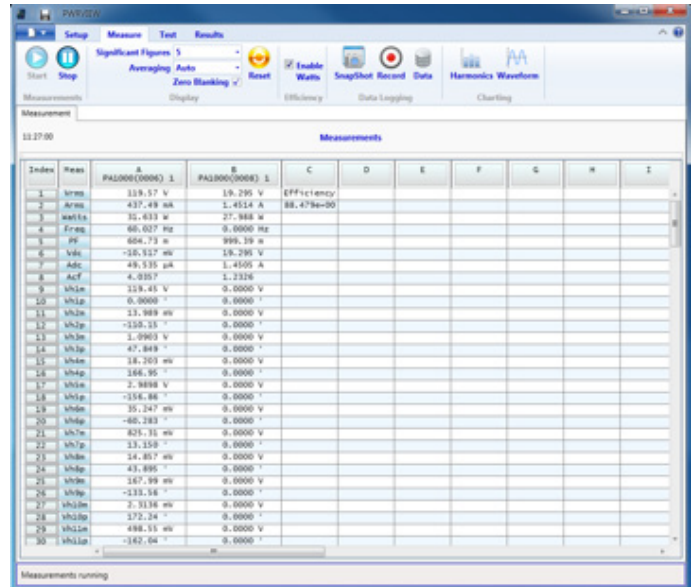

Figure 16. Measurement grid with efficiency.
- The Measurement grid will start making efficiency measurement based on the input and output wattage as seen in the Figure 16.